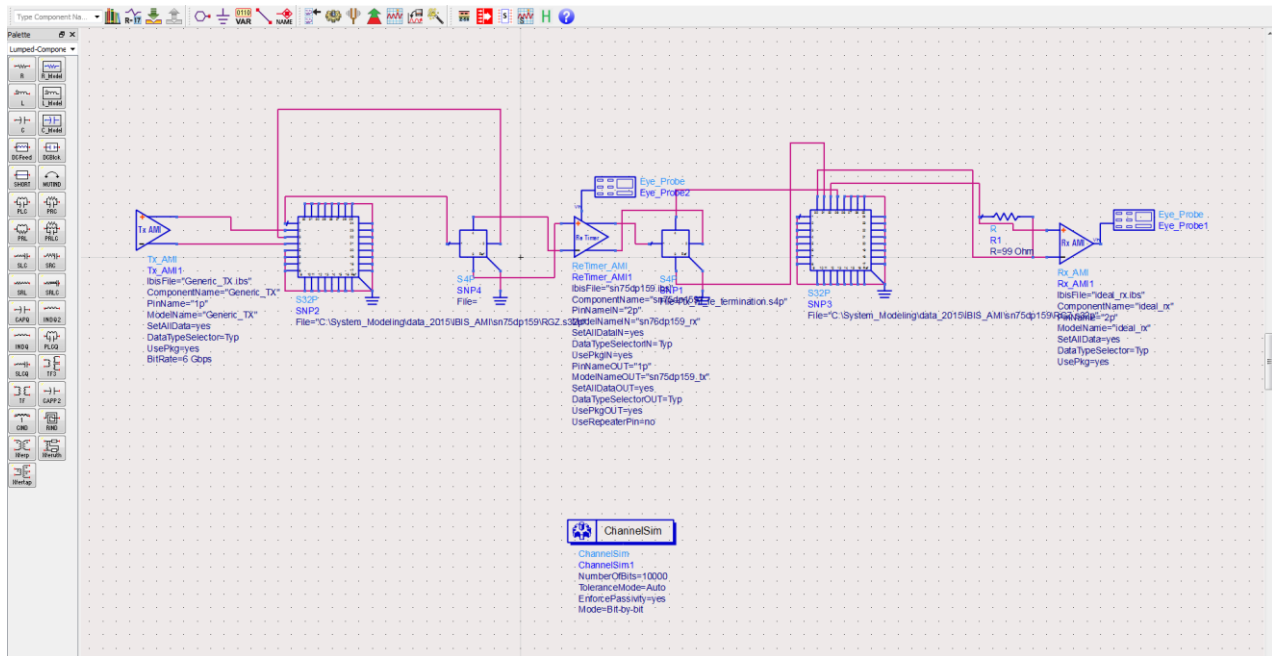

Figure 1. Schematic of a system that consists of ideal transmitter, SN75DP159 retimer, and ideal receiver.
7. Create the schematic as shown in Figure 1 above